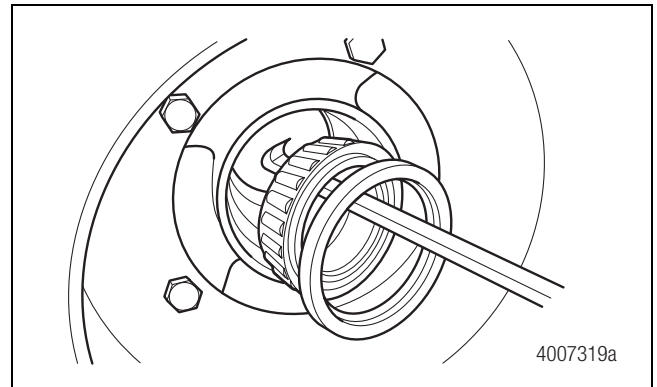

Figure 12
13. From inside the drum, use a crowfoot pry bar to pry out the inner bearing and wheel seal. Figure 12.